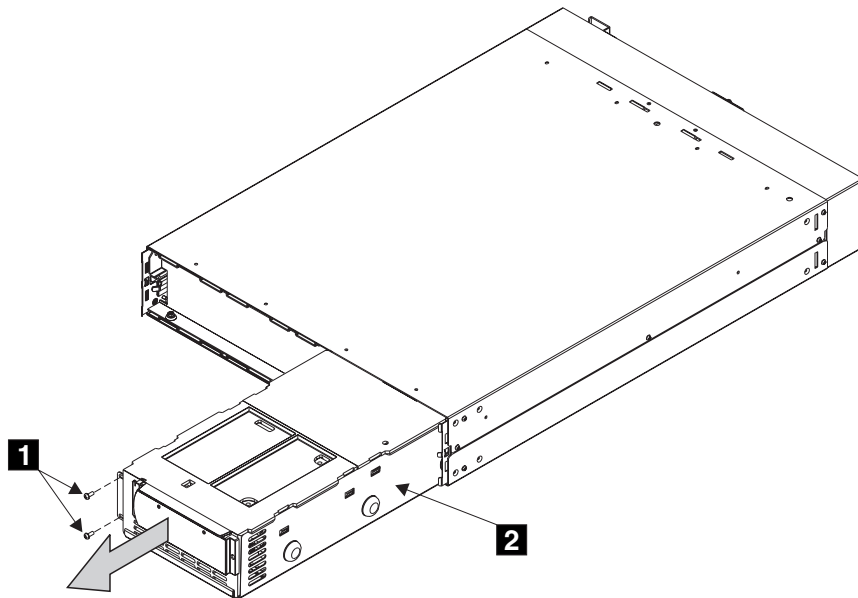

Figure 302. Removing the electronics unit from the 2145 uninterruptible power supply
4. Remove the two screws (**1** in Figure 302).
5. Pull the electronics assembly (**2** in Figure 302) out from the 2145 uninterruptible power supply.